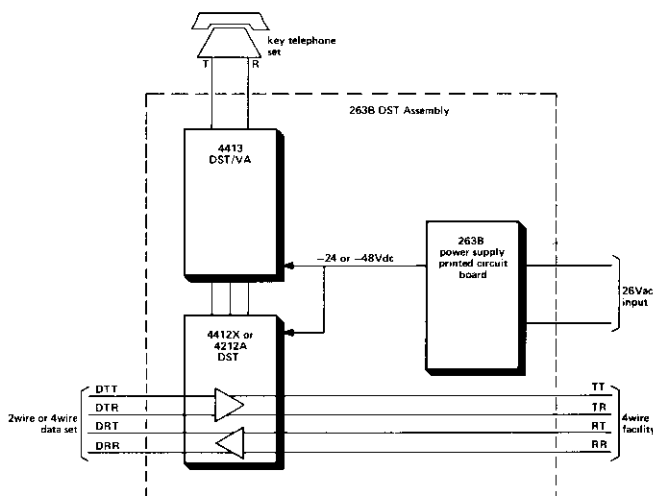

figure 2. 263B typical application
2.01 In a typical application (figure 2), the 263B DST Assembly mounts and powers one 4412X or 4212A DST module and one 4413 DST/VA module to provide a data/voice-alternate termination of a telephone set at a data station. The 4413 performs the necessary switching, signaling, and voice transmission functions to interface a 2wire telephone set with the 4412X or 4212A DST module. The 4412X and 4212A DST modules perform the necessary level coordination, amplitude equalization, impedance matching, and loopback functions to interface the 4413 DST/VA module and a 2wire (4212A) or 4wire (4412X) data modem with a 4wire transmission facility.